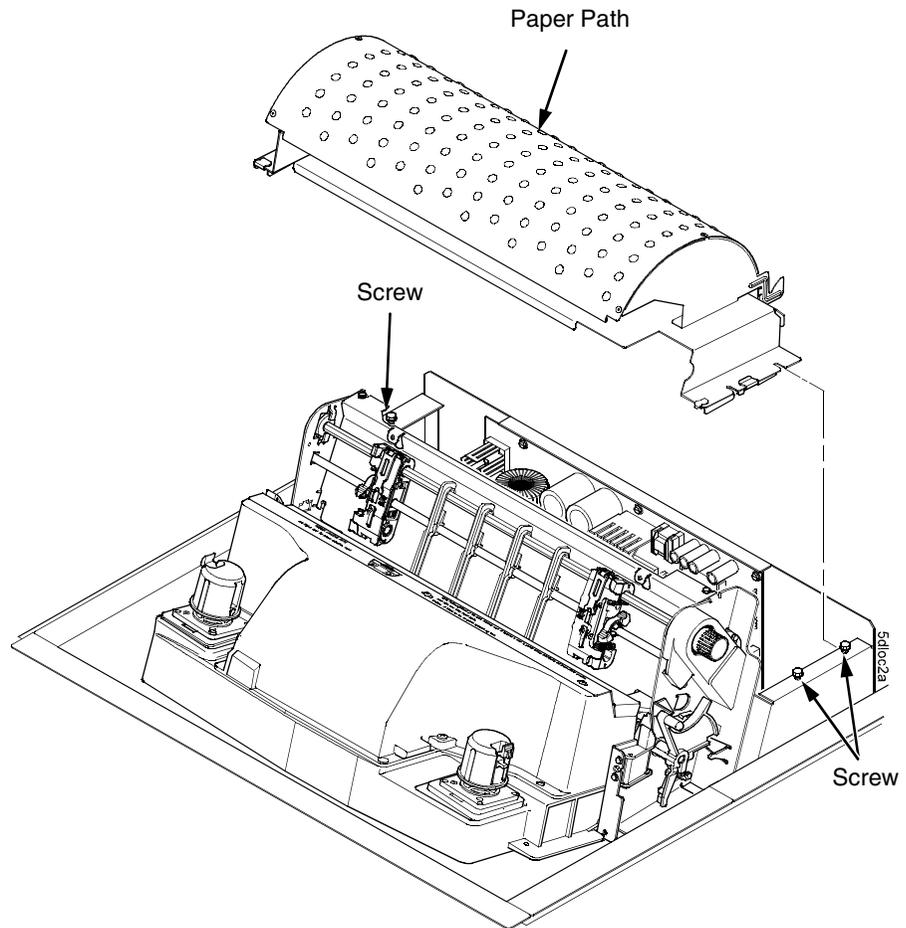

Figure 78. The Paper Path
4. Loosen—do not remove—the three paper path hold-down screws. Slide the paper path to the left and lift it off the card cage. (Figure 78.)